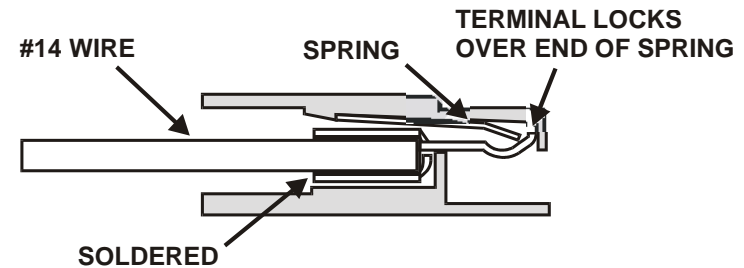

Figure 26. Inserting Terminal into Anderson Connector Shell.
- Orient each crimp terminal as shown in Figure 26 and slide it into a shell until it “clicks” in place. Tug on the wire to be sure it is locked in place. If the terminal comes out, you probably have it in upside down.